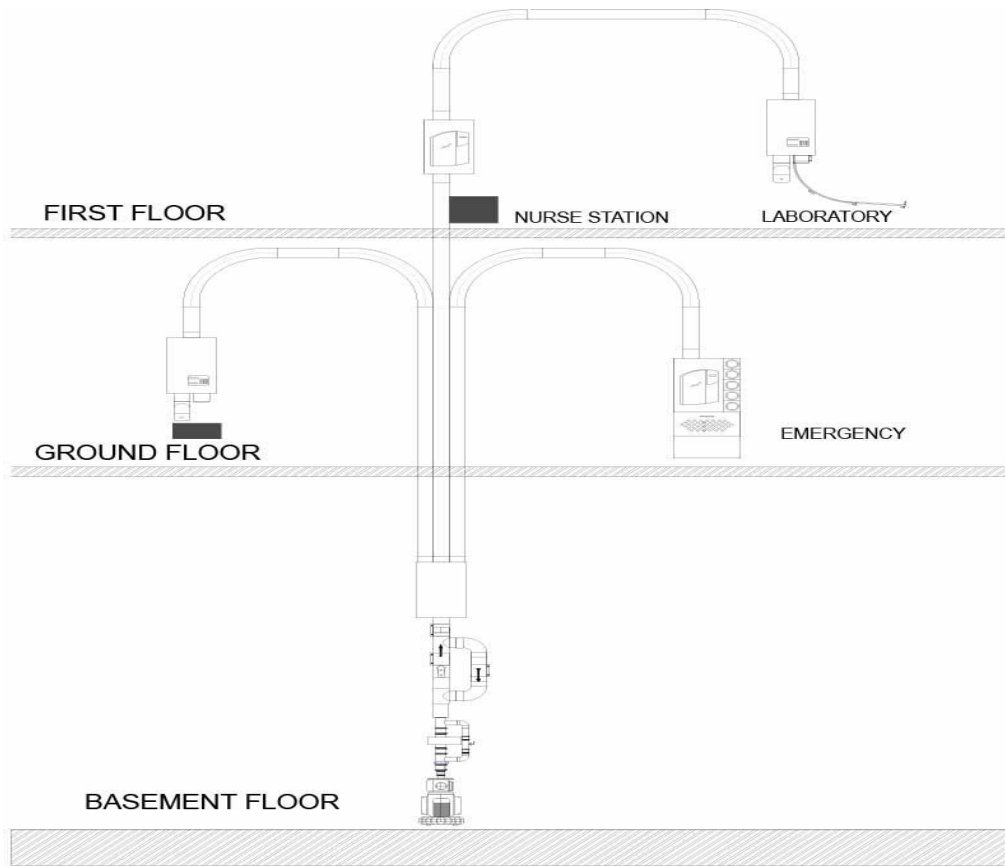

Figure 9.1 – Typical Pneumatic Tube System Layout – Single Zone System
- The PTS can be constructed as a single-zone-system or as a multi-zone-system. The major components of such a system include the blower, tubes, stations, diverters, carriers, and the central control unit that forms the command center of such a system. Figure 9.1 shows a single zone operation with 4 stations (two stations on the Ground Floor, two stations on the First Floor and the blower and diverter in the basement area).
- Each healthcare facility PTS is designed for its respective facility. Figure 9.1 below shows an example of PTS.